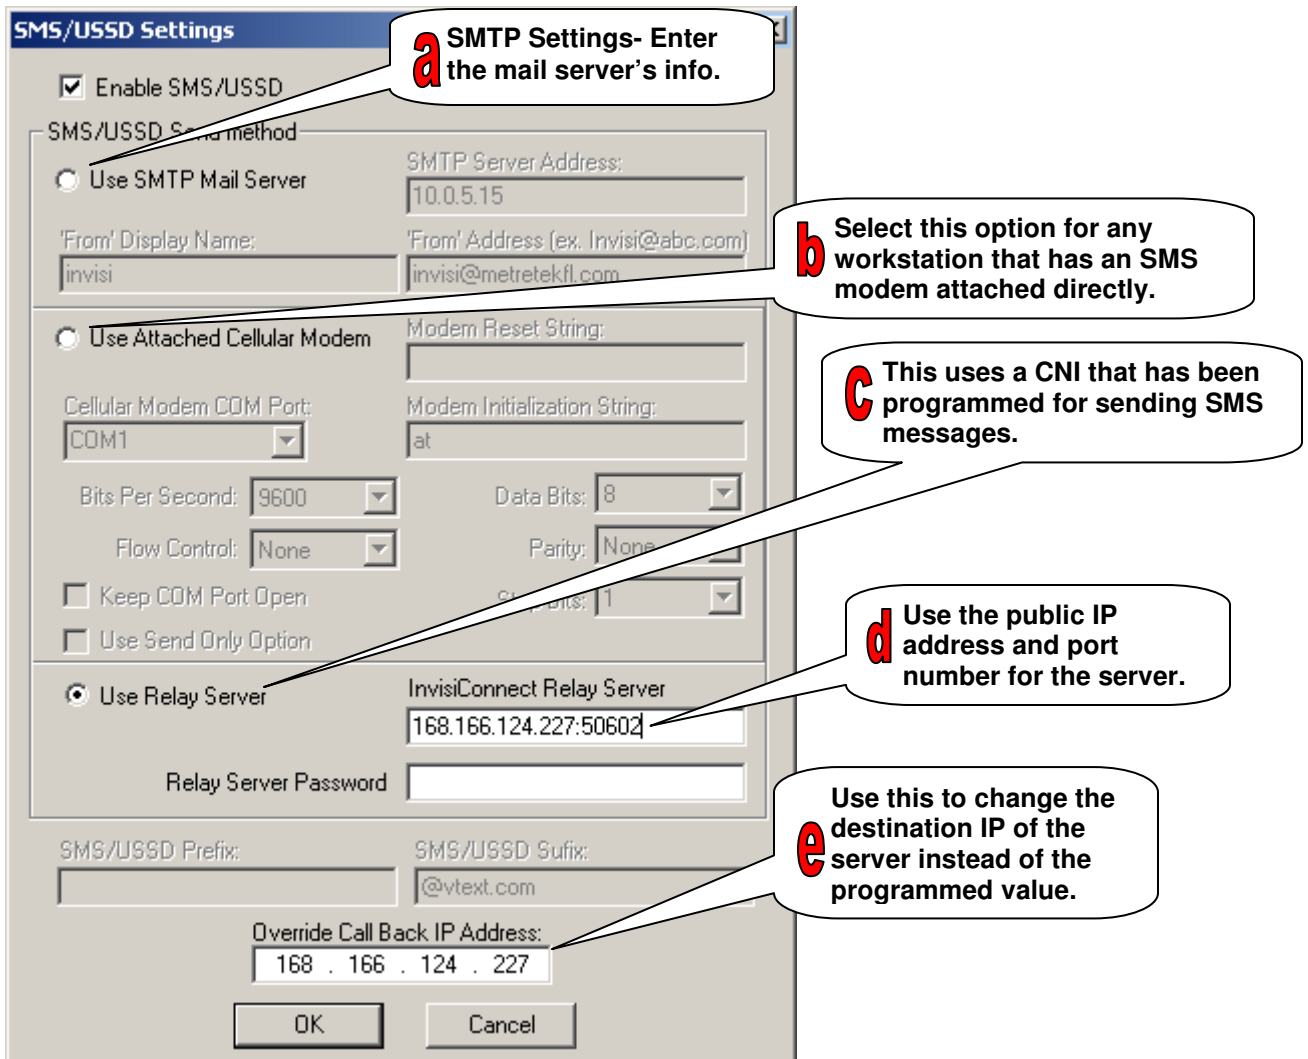

Figure 19 – InvisiConnect™ Configuration – SMS
You will need to configure SMS (Short Message Services) to initiate any communications with the CNI. (Configuring the CNI to accept SMS messages is covered later in this document.) Refer to Figure 19 for configuring SMS.
1. Select SMS/USSD Configuration from the Options menu in InvisiConnect™ to display a settings page similar to Figure 19.